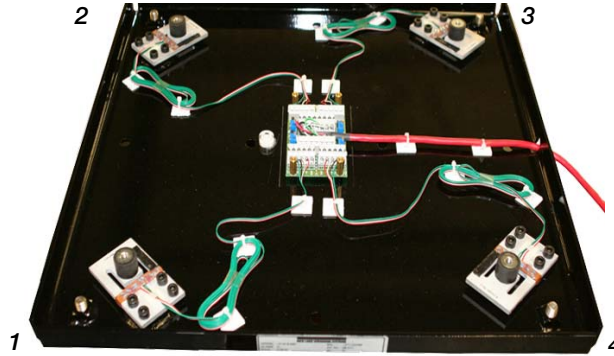

Figure 4-1. Load Cell Arrangement
5. Attach the cable from each load cell along the frame and into the summing board as shown in Figure 4-1.
Note In Figure 4-1, both the scale and the summing board are viewed from the top. To verify correct load cell/summing board terminal matching, see the numbers on the terminals inside the summing board.